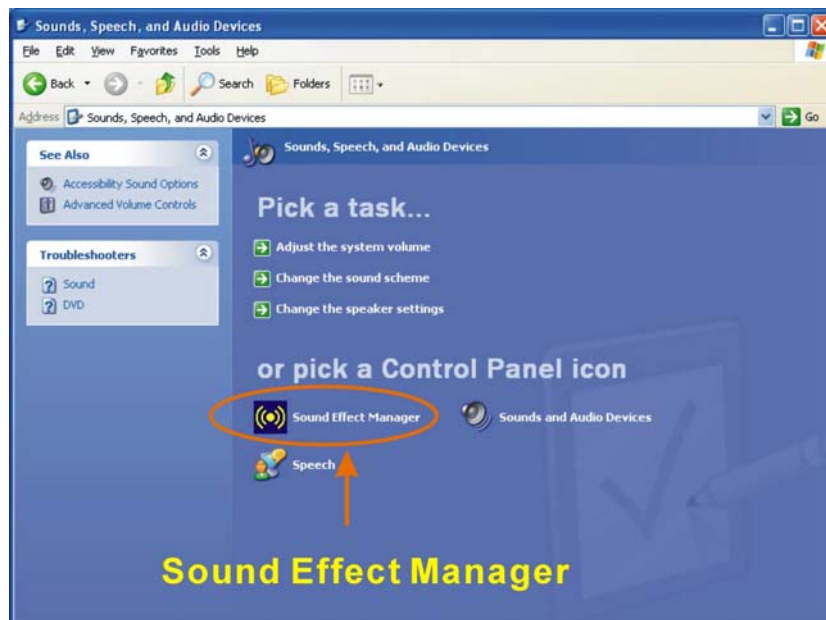

Figure 6-22: Sound Effect Manager Icon [Control Panel]
- The **Sound Effect Manager** icon in the Control Panel (**Figure 6-22**).